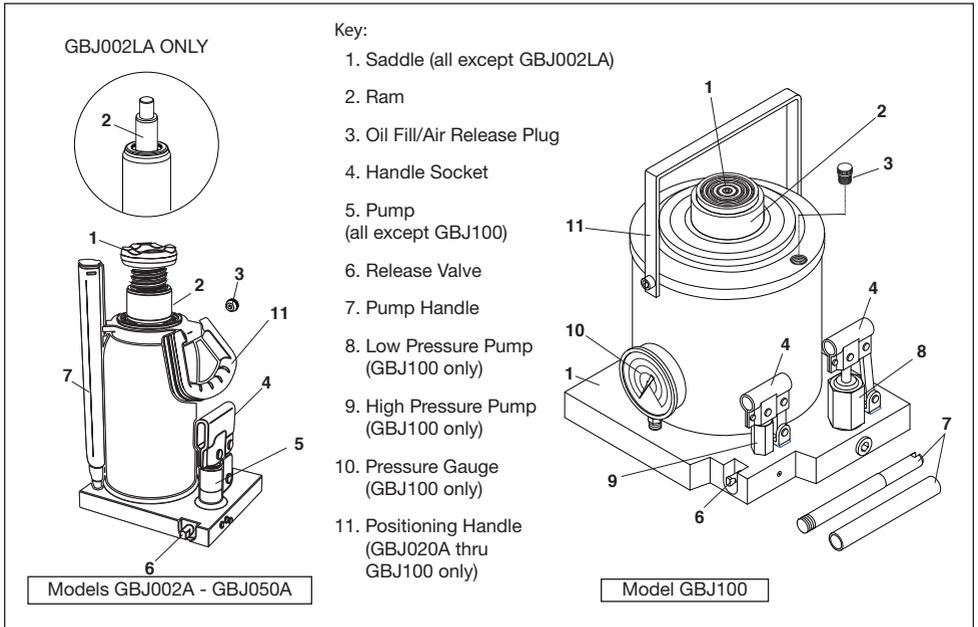

Fig. 1 - Features and Components
**NOTICE** Models GBJ020A through GBJ100: Refer to Fig. 1 for location of jack positioning handle (item #11).